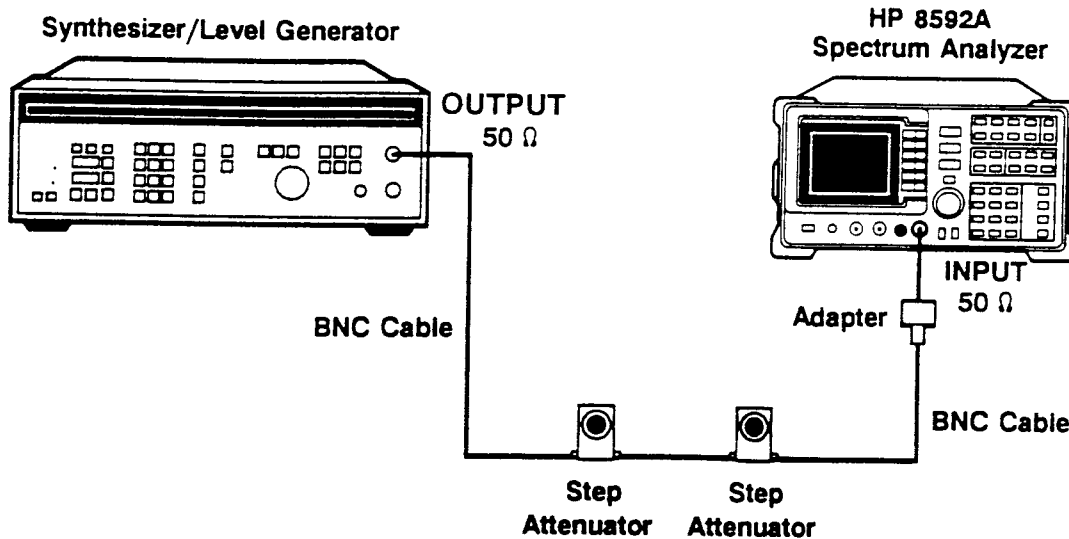

Figure 1-11. Input Attenuator Accuracy Test Setup
- Connect the equipment as shown in Figure 1-11. Set the HP 355D to 20 dB attenuation and the HP 355C to 0 dB attenuation.